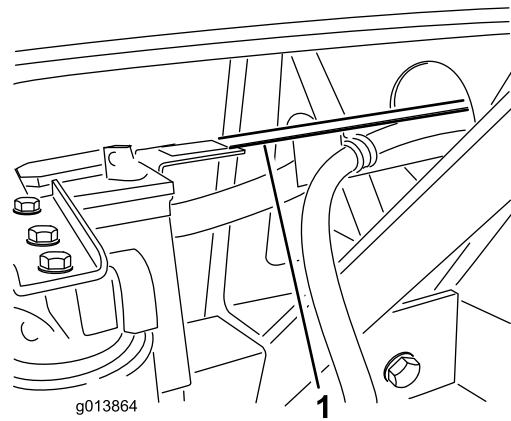

Figure 10
33. The hose guide should sit on top of the tab from the vertical leg of the battery tray (Figure 10). If the holes in the hose guide do not match the holes in the battery tray tab, the hose guide length may be adjusted by loosening the bolts attaching the hose guide to the hydraulic tank bracket and sliding the hose guide forward or to the rear as required.
34. Attach the hose guide to the battery tray tab using (2) 1/4 x 3/4 inch bolts and flange lock nuts (Figure 10).